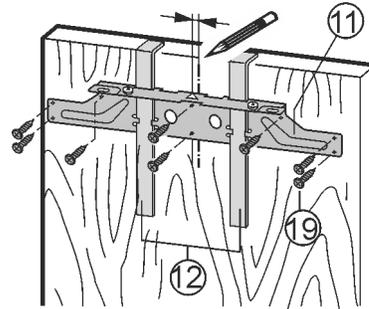

Fig. 30
- ▶ Align the crosspiece Fig. 30 (11) to the middle of the door.
- ▶ Left strip: Move the crosspiece Fig. 30 (11) 6 mm (0.24 in) to the left.
- ▶ Right strip: Move the crosspiece Fig. 30 (11) 6 mm (0.24 in) to the right.